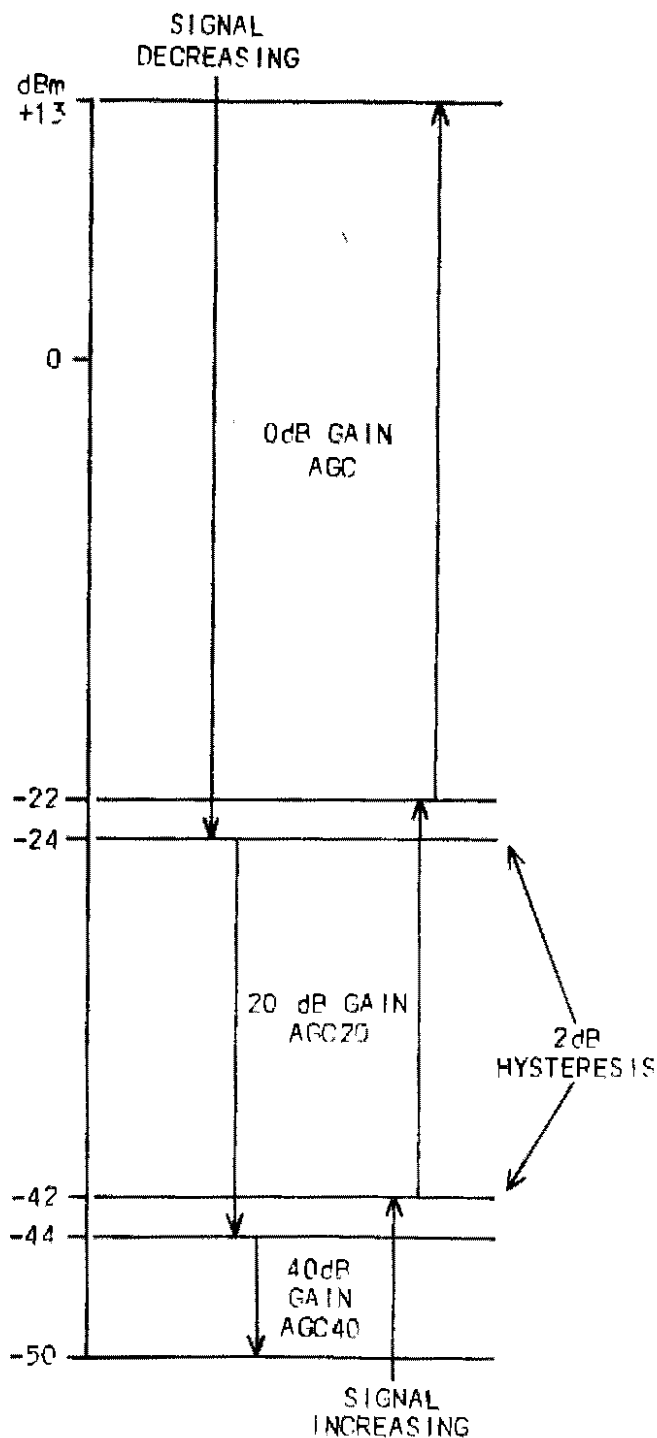

Fig. 10
3.17 A 1.67-Hz signal (CLK2HZ) from the Timing Generator is used as a counter clock. The counter resets whenever Q1•Q2 occurs; note that the counter steps from the AGC20 state for either over-range or under-range. The over-range condition steps the counter to the AGC state by resetting the counter. The under-range condition steps the counter once more to reach the AGC40 state. Figure 10 shows how the gain is switched for a decreasing signal and an increasing signal. Note the 2-dB hysteresis for the two cases. This avoids excessive gain switching for signals which fluctuate at the gain boundaries. The hysteresis is provided by the voltage comparators. The under-range comparator turns on for input voltages less than 0.074 volts, while the over-range comparator turns on for inputs greater than 1.11 volts. The autoranging gain signals are fed back to the input amplifier to set the gain, and are also fed to the Level Meter Logic to correct the display.